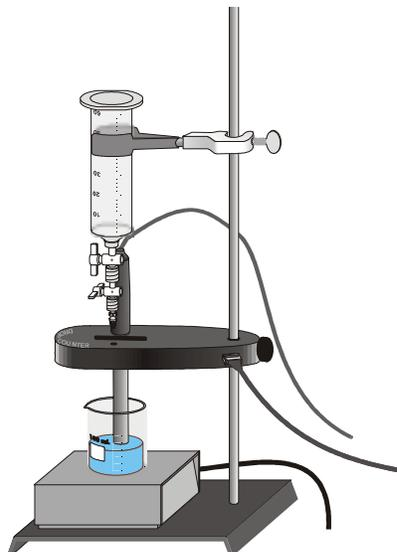

Figure 2
- d. Lower the Drop Counter onto a ring stand as shown in Figure 2 and connect it to the DIG/SONIC 1 port of the interface.